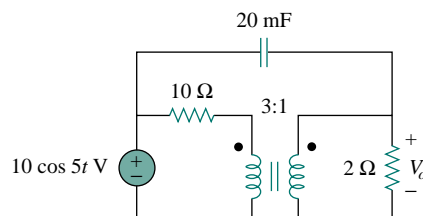

Figure 13.100 For Prob. 13.33.
- 13.33** For the circuit in Fig. 13.100, find \mathbf{V}_o . Switch the dot on the secondary side and find \mathbf{V}_o again.